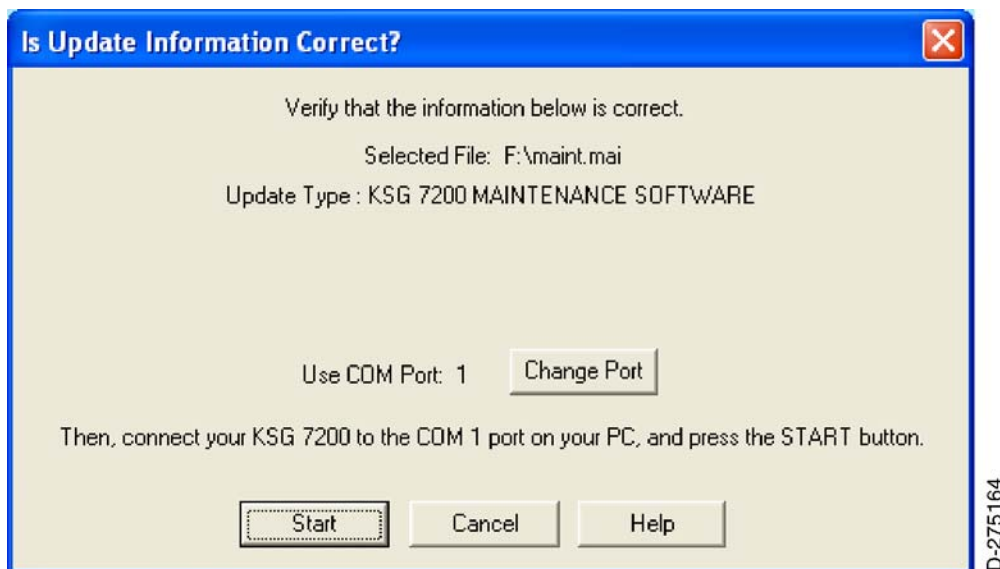

Figure 20. (Sheet 1 of 1) Is Update Information Correct? Window (Change Port)
- (7) Click on the maint.mai file from the CD-ROM and click the Open button.
- (8) The Is Update Information Correct? window will appear. Verify that the information displayed is correct. If using a different COM port than displayed, it will be necessary to select Change Port. Refer to Figure 20.